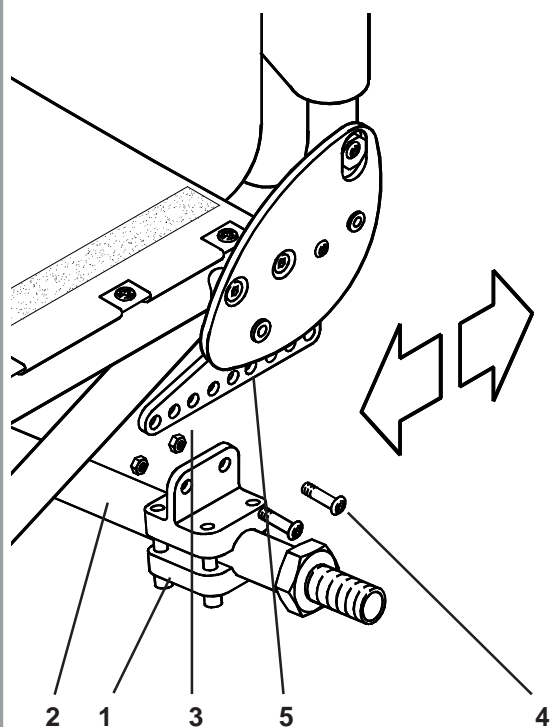

Fig. 33
The centre of gravity (Fig. 33) is adjusted by moving the axle assembly (1) and camber bar (2) on the indexed axle plate (3). To move the axle assembly undo and remove the retaining bolts (4) and nuts, using a 4mm Allen key and an 10mm A/F spanner, and locate the assembly in the desired index holes (5). Fit the retaining bolts and nuts, and tighten to 8-10Nm torque.